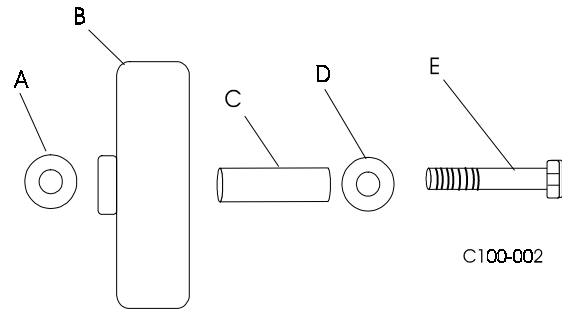

Figure 2. Wheel Assembly
1. Assemble the Axle bolt (item E, Figure 2) with two Washers (items A & D, Figure 2) and the Axle Sleeve (item C, Figure 2) through Wheel (item B, Figure 2).